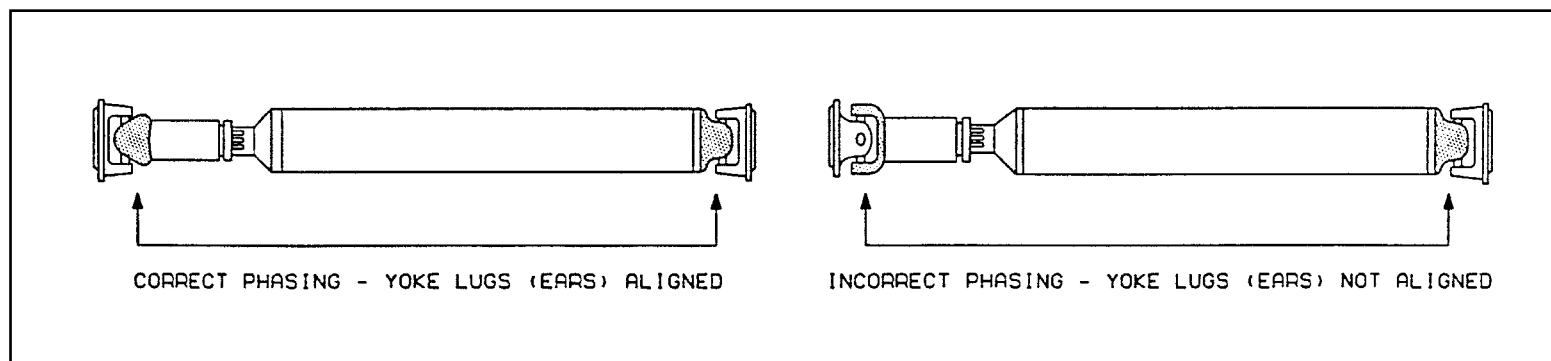
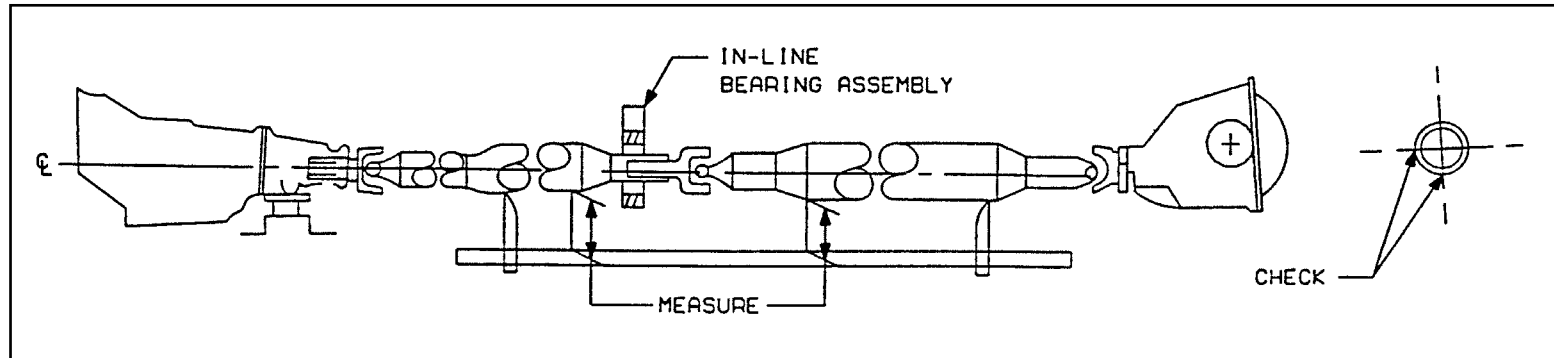

Figure 17
Figure 18
- SVMs should devise a gauge by which to measure driveshaft alignment angles for front and rear shafts. For smooth operation, the front must align with the rear shaft in both side and plan views (Figure 17). Check for this vertically and along the horizontal center line (Figure 18).
This fluctuation and resulting vibration can be eliminated by phasing the universal joints at each end of the shaft so that the alternate acceleration and deceleration of one joint is offset by equal and opposite accelerations of the other joint. Correct phasing is achieved by aligning the universal joint lugs on each end of the shaft (refer back to Figure 17).
To allow the propshaft to operate as smoothly as possible, make sure that the input universal joint is approximately equal and opposite to the output universal joint angle. That is, the downward angle (a) of the transmission output shaft, relative to the driveshaft axis must be equal to the downward angle (b) of the pinion as shown in Figure 18. (**Note:** Angles shown are exaggerated for clarity.) To allow the best compromise for the pinion angle as it changes because of vehicle loading, acceleration and ride motion, these angles are determined and set at the factory. This eliminates the need for adjustment by the SVM.